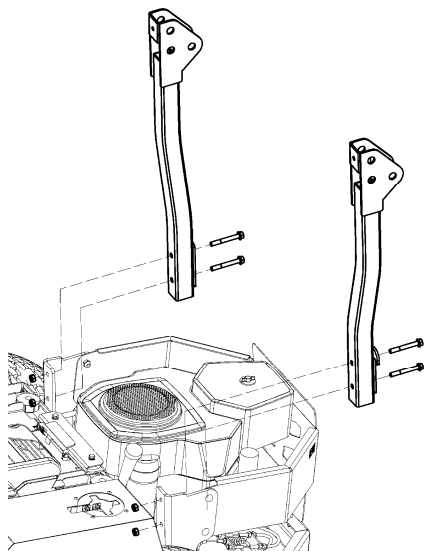

Fig. 3
1. Locate and align the left and right lower roll bar tubes with the machine frame(Refer to Fig. 3), torque all the nuts to $50\pm 5\text{N.m}$.